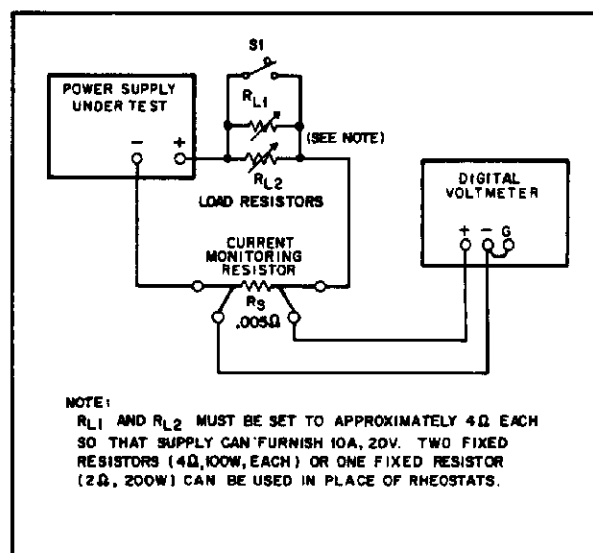

Figure 5-7. Constant Current Test Setup
- Connect test setup shown in Figure 5-7. Set  $R_{L1}$  and  $R_{L2}$  to maximum resistance.
- Connect test setup shown in Figure 5-7.
- a. Connect test setup shown in Figure 5-7.